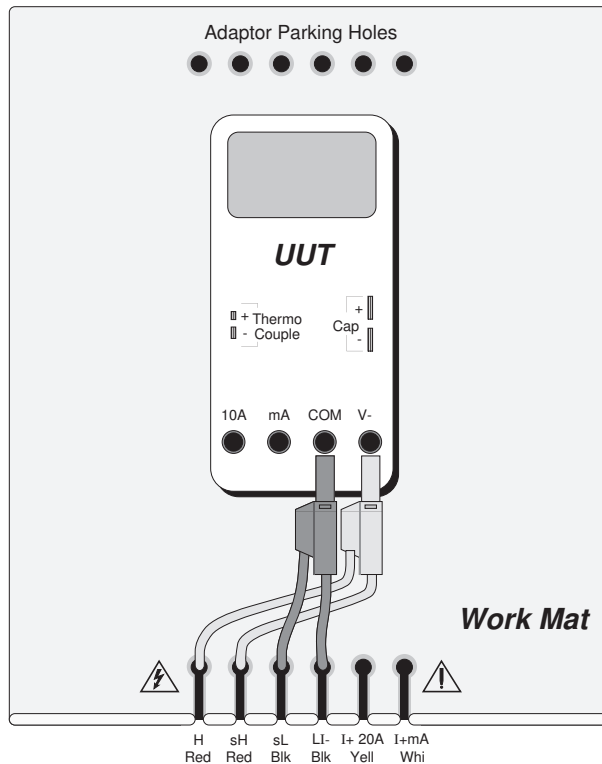

Fig. 15.1
The general connection scheme for UUT calibration is illustrated in *Fig. 15.1*. The use of either 4-wire remote sensing at the UUT terminals, or 2-wire local sensing at the 9100 terminals, is served by the same connections from the 9105 at the work mat. Selection of 2/4-wire is carried out on the 9100 front panel.
1. Connections Connect the 9100 to the UUT as in Fig. 15.1 , and ensure that both instruments are powered ON and warmed up.
Connect the 9100 to the UUT as in *Fig. 15.1*, and ensure that both instruments are powered ON and warmed up.